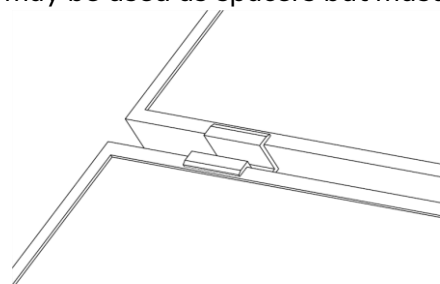

FIG.13 Using middle clamps as spacers
13. The modules must be fitted row by row, starting from the bottom row and following the pre-tightening of the bottom row of end clamps. To mount the modules at equal distances in a row (FIG.13), the middle clamps may be used as spacers but must be removed after assembly.